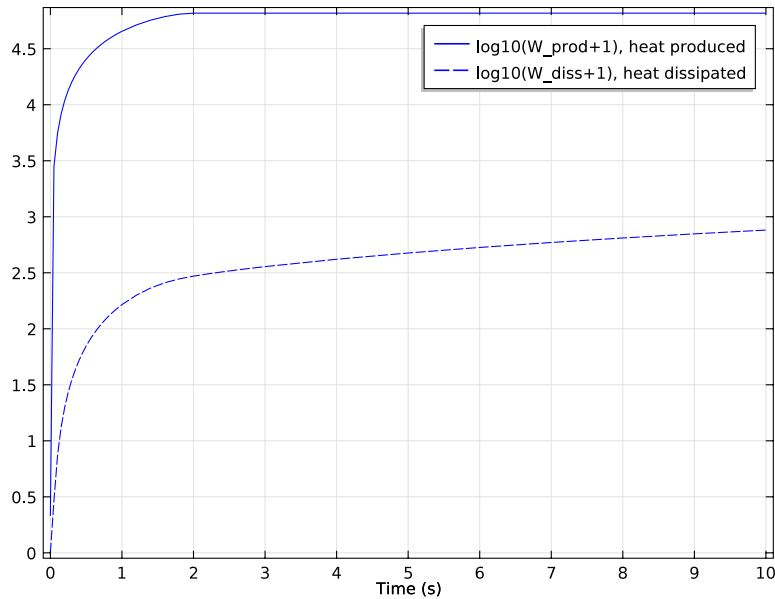

Figure 5: Comparison of total heat produced (solid line) and dissipated (dashed).
To investigate how much of the generated heat is dissipated to the air, study the surface integrals of the produced heat and the dissipated heat. These integrals give the total heat flux (J/s) for heat production, Q_{prod} , and heat dissipation, Q_{diss} , as functions of time for the brake disc. The time integrals of these two quantities, W_{prod} and W_{diss} , give the total heat (J) produced and dissipated, respectively, in the brake disc. Figure 5 shows a plot of the total produced heat and dissipated heat versus time. You can see that 8 s after disengagement the brake has dissipated only a fraction of the produced heat. The plot indicates that the resting time must be extended significantly to dissipate all the generated heat.